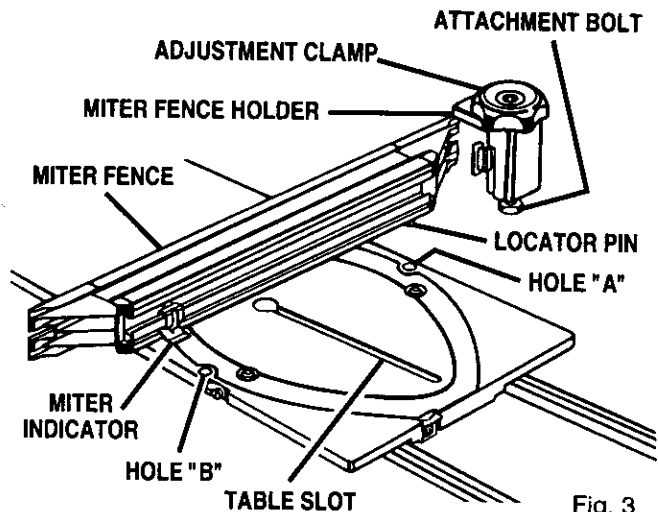

Fig. 3
- Place the long miter fence rail on the sliding miter table. See Figure 3.
**Note:** Raised ribs on the pivot create a tight fit when installing the pivot. It may be necessary to force the pivot into the holes at first. See Figure 3.